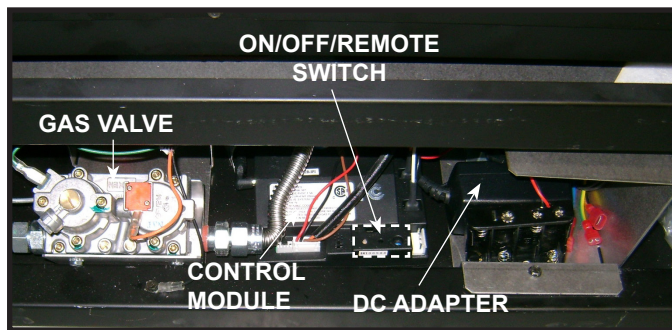

Figure 11.1. Valve Components
**Note:** There is an alternative access to the junction cord. This can be accessed by removing the valve assembly. See Figures 11.1 and 11.2.